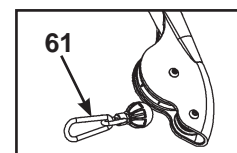

Figure 1
1. Installing snap links (refer to step 1A, 1B and Figure 1).
- C. Attach each snap link (#61) to cable on each cable arm. See Figure 1.